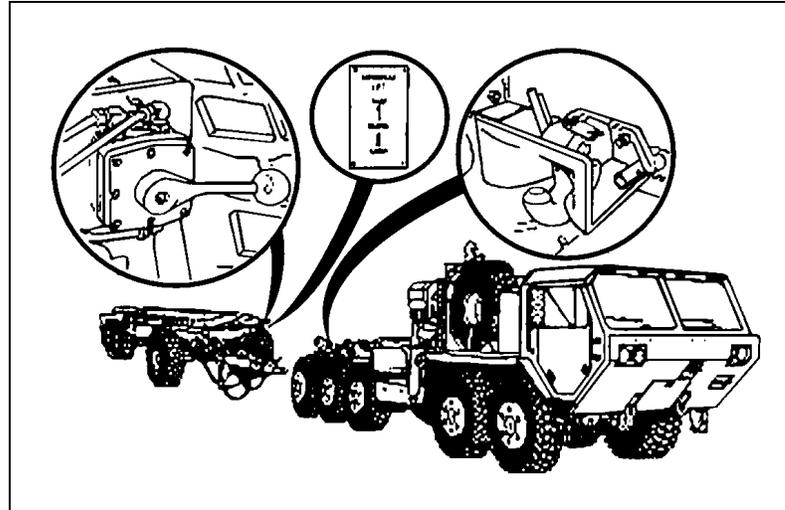

Figure 3-65. Air Coupling
- t. Move air assist lever on drawbar air assist valve to UP position and raise drawbar to level of coupler (see Figure 3-65).